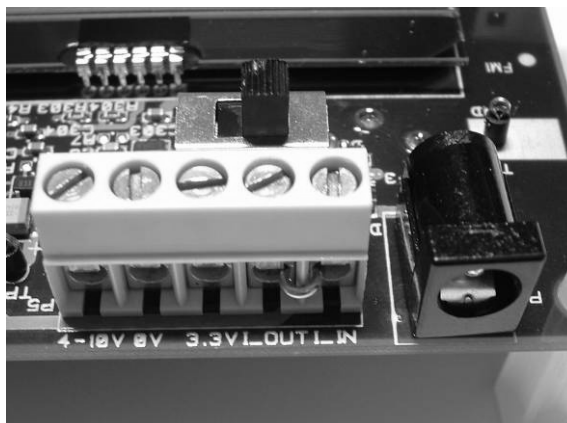

Figure 1. Power Terminal Block
- DC power from a laboratory power supply or battery eliminator power supply. The DC jack connector accepts standard DC jack power connectors with a 2.5 mm center pin. The center pin is used for the positive voltage, and the sleeve for ground. If a laboratory power supply is used, ground should be connected to the 0 V terminal on the power terminal block (see Figure 1). A 4 – 10 V supply can be connected to the “4 – 10 V” terminal, or a 3.3 V supply can be connected to the “3.3 V” terminal. If a 3.3 V supply is used, the supply selection switch should be set to the “3.3 V” position, otherwise the “4 – 10 V” position should be used. If the “4 – 10 V” position is selected, a voltage regulator supplies the circuitry on the board. Otherwise the 3.3 V supply is applied directly to the EB, bypassing the regulator.